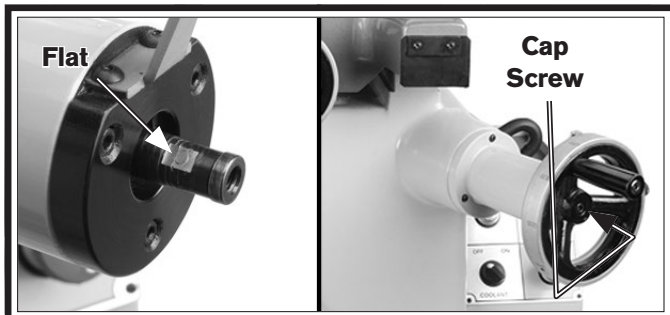
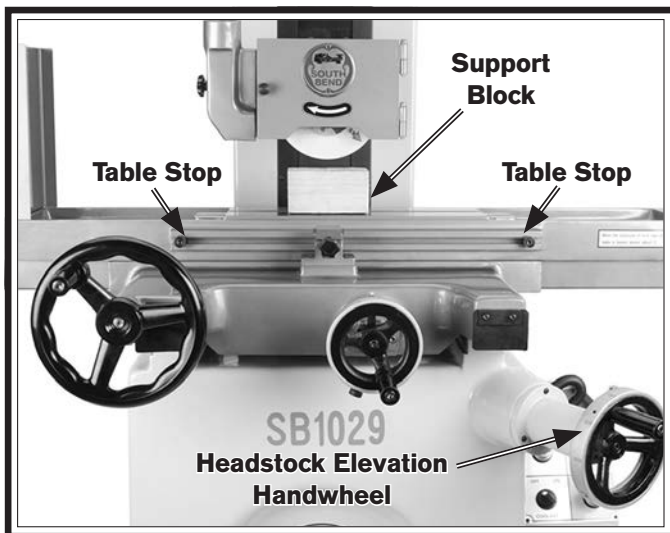

Figure 11. Headstock elevation handwheel.
Figure 12. Table and headstock shipping position.
6. Locate the flat shown in **Figure 11** on the headstock elevation handwheel shaft. Next align the set screw on the elevation handwheel hub with the flat on the shaft, and slide the handwheel (see **Figure 12**) onto the shaft until it stops.
7. Tighten the set screw against the shaft flat, secure the handwheel to the shaft with the cap screw (see **Figure 11**), and install the handle onto the handwheel.
8. Rotate the headstock elevation handwheel counterclockwise to raise the headstock slightly, and remove the wooden support block (see **Figure 12**).
9. Reposition the table stops (see **Figure 12**) to the ends of the table.
10. At both ends of the table, lift up the rubber dust skirt, and locate the neoprene seat wires (two at each end, see **Figure 11**).